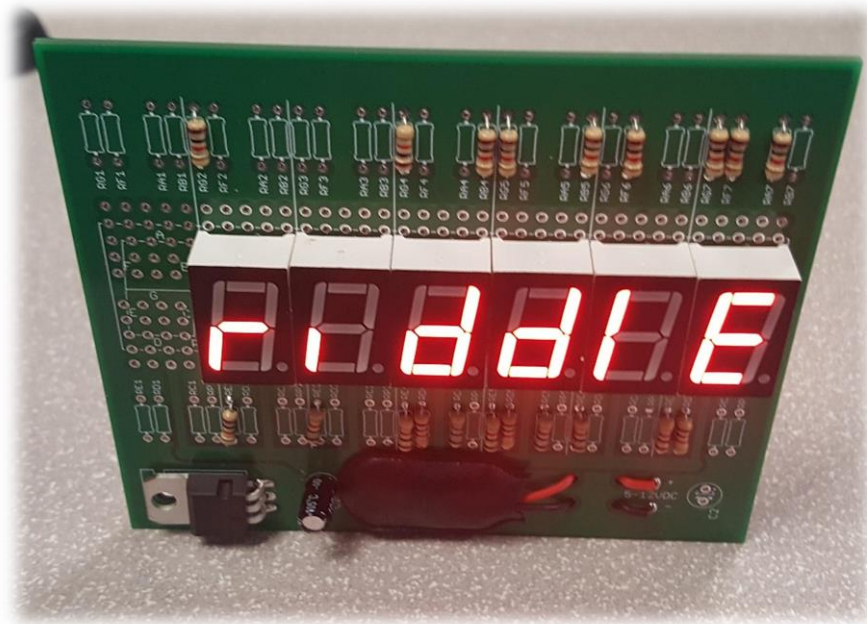
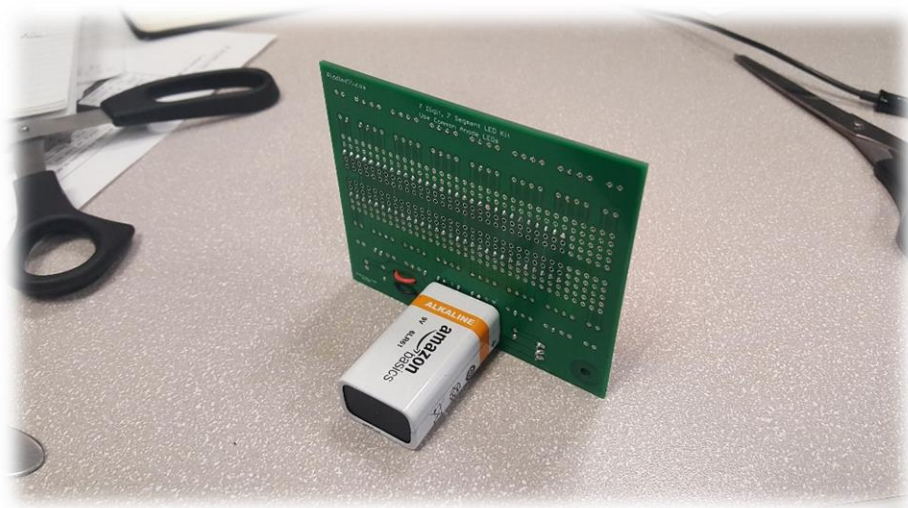

Figure 1. 7-Digit, 7-Segment LED Kit
Figure 5 – Battery installed, also holding the PCB upright
Step 2c. Route the battery connector wires through the holes as shown in the pictures (Figures 1 and 5). The red wire should be soldered to the “+” terminal, and the black wire soldered to the “-” terminal. When the battery is in its final position, it will also be used as a stand to hold the PCB in the upright position, as shown in Figure 5.